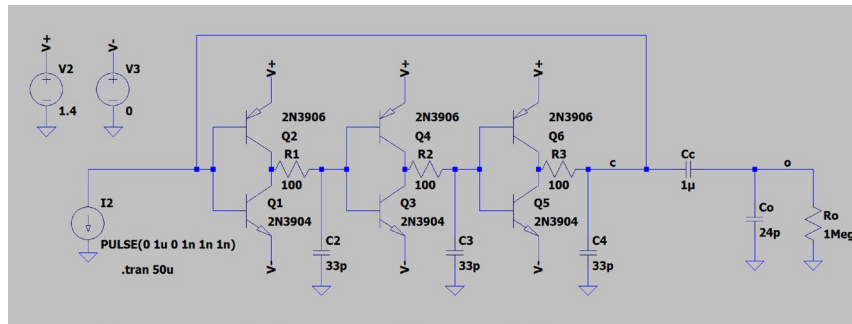
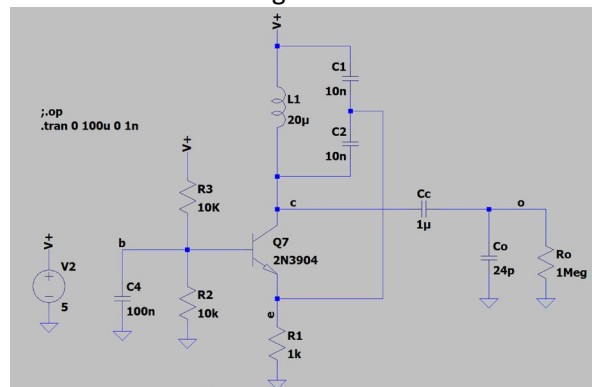

Figure 1
Figure 2
- 1) Using the simulator, design the configuration in Fig. 1 (15pts)
- 2) Build the circuit at (1) and experimentally reproduce all the simulation (35pts)
- 3) Using the simulator, design the configuration in Fig. 2 (15pts)
- c) simulate with an ideal inductor and with the actual inductor used in (4); explain in your own words any difference
- 4) Build the circuit at (3) and experimentally reproduce the simulation (35pts)